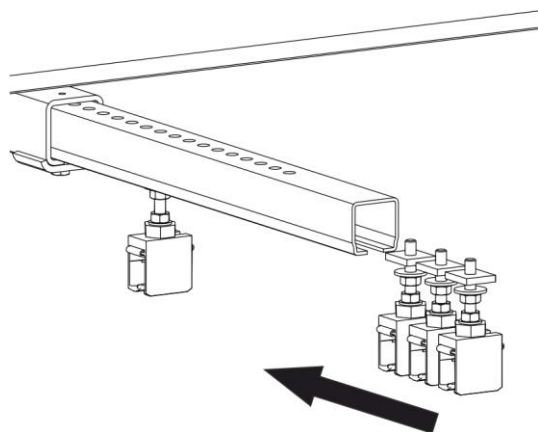

Fig. 54: Slide the next hanger clamp onto the cross arm
- Slide the next hanger clamp into the cross arm/C-rail (see Fig. 54).